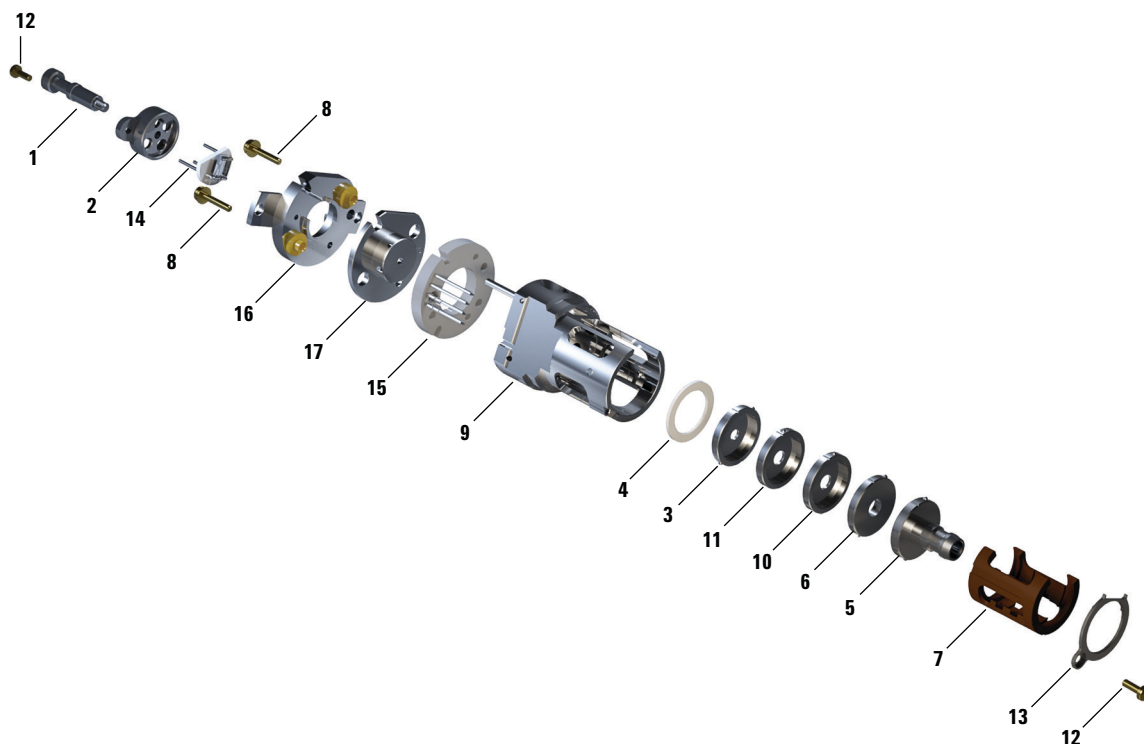

Figure 41. Assembling the EI HES
Refer to the exploded parts view Figure 41 and the EI HES parts list Table 17 on page 133 while using this procedure.
- 3 Insert the lens stack encased in the insulator into the source body. (See Figure 41 on page 133.) The engraved numbers face the full opening extending to the end of the source body. Verify that the ceramic is sitting flush at the end of the source body.
Table 17 Parts list for EI HES (Figure 41)
Table 17 Parts list for EI HES (Figure 41) (continued)